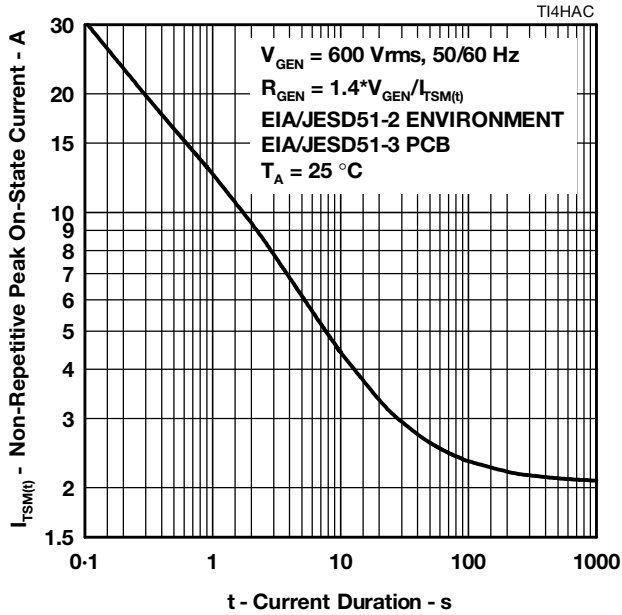

Figure 10.
4. EIA/JESD51-2 environment and EIA/JESD51-3 PCB with standard footprint dimensions connected with 5 A rated printed wiring track widths. See Figure 10 for the current ratings at other durations. Derate current values at  $-0.61\%/\text{C}$  for ambient temperatures above  $25^\circ\text{C}$ .